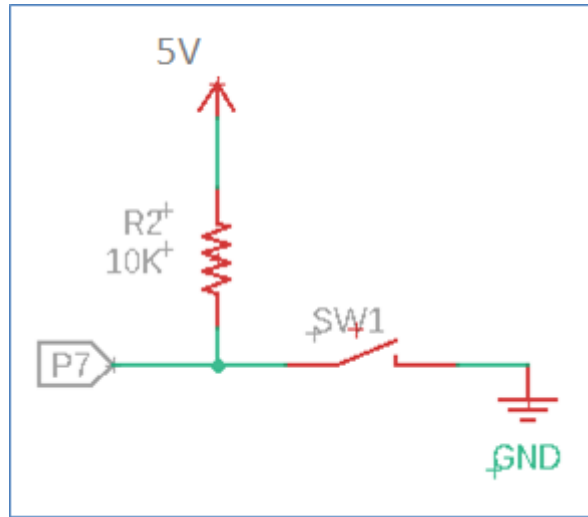

Figure 4: Schematic of toggle switch
5. Assemble the circuit in Figure 4. Using the breadboard, connect a 10k resistor(value of resistor is not critical, any similar resistor should work) to the 5V supply on the microcontroller to digital pin 7.